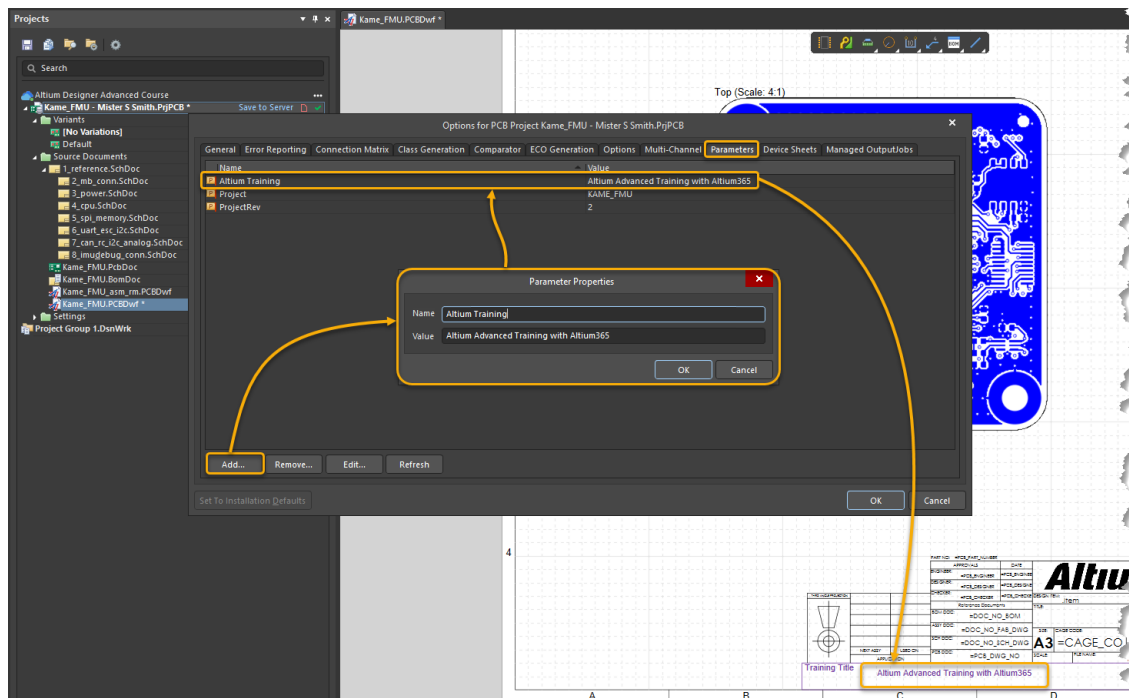

Figure 15. Project Options with Parameter View
58. By using Figure 15 as a reference: